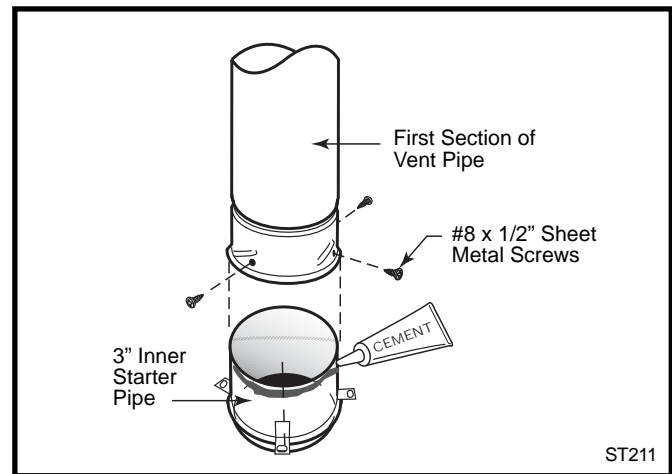

Fig. 23 Connect the inner starter with the next section of inner vent pipe.
- Drill three pilot holes into the Inner Starter and secure the assembly with three sheet metal screws. (Fig. 23)